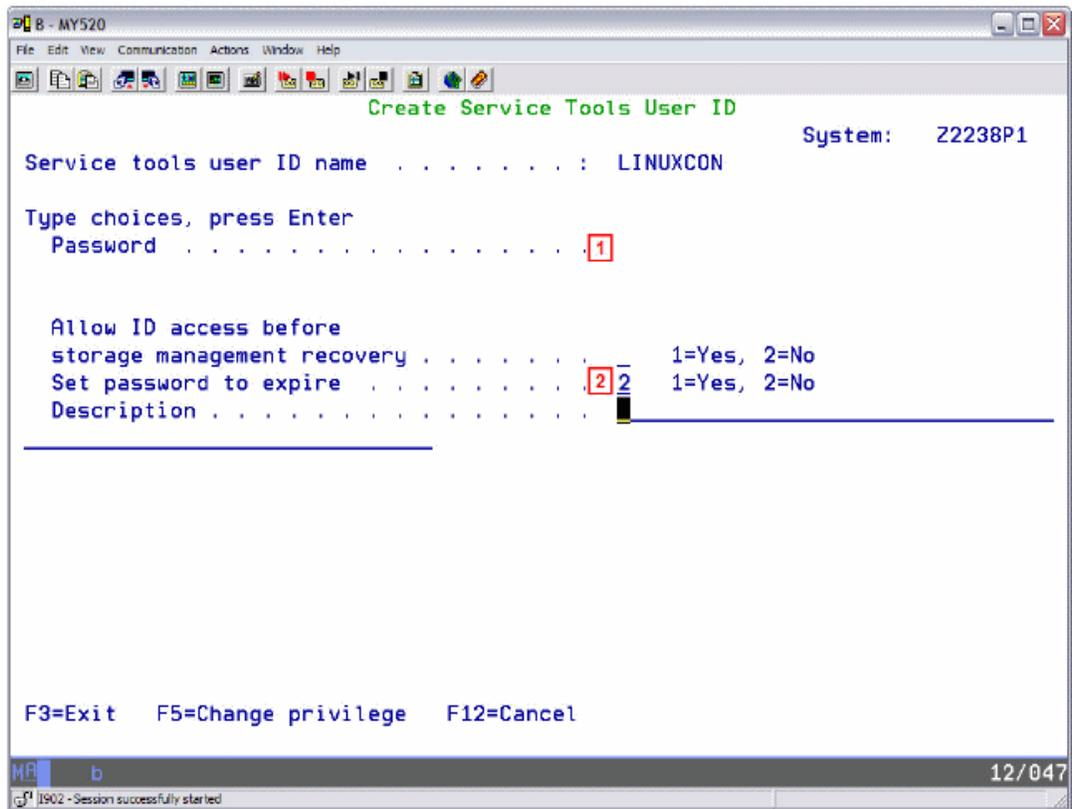

Figure 13-31 Create Service Tools ID
4. Press Enter. The Create Service Tools User ID screen appears, as shown in Figure 13-31.